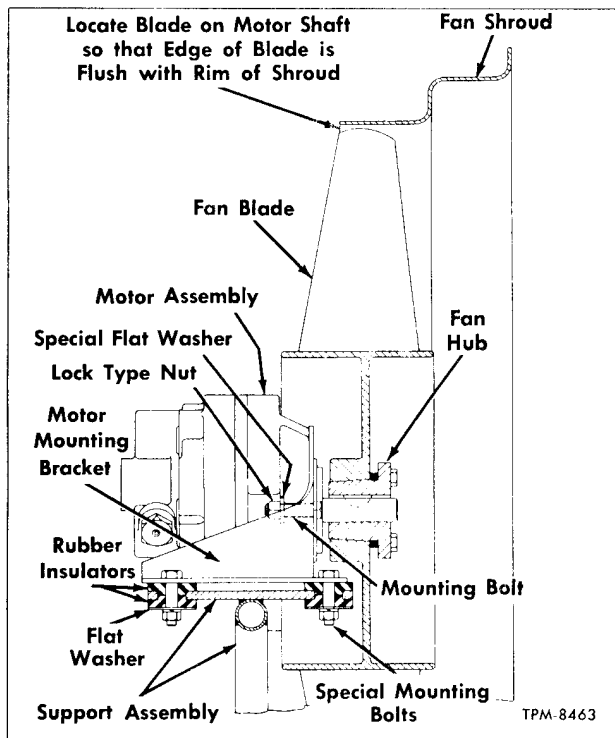

Figure 17—Condenser Fan Blade Alignment and Motor Mounting
2. Locate drive key into keyway of motor shaft, then slowly place fan blade and hub over motor shaft and into alignment with shaft key. Push fan hub onto shaft to a position whereby the trailing edge of blade fin is flush with edge of shroud opening rim (fig. 17). Tighten three attaching cap screws alternately until tight.
1. Before installing motor, check condition of motor bracket rubber mounting insulators. If deteriorated or damaged in any way they should be replaced. Refer to figure 17 which shows mounting and proper positioning of mounting bolts.
2. Place motor assembly to mounting bracket and attach with two bolts, nuts, and washers. Make sure bolts are inserted from fan side of bracket as shown in figure 17. Tighten bolt nuts firmly.